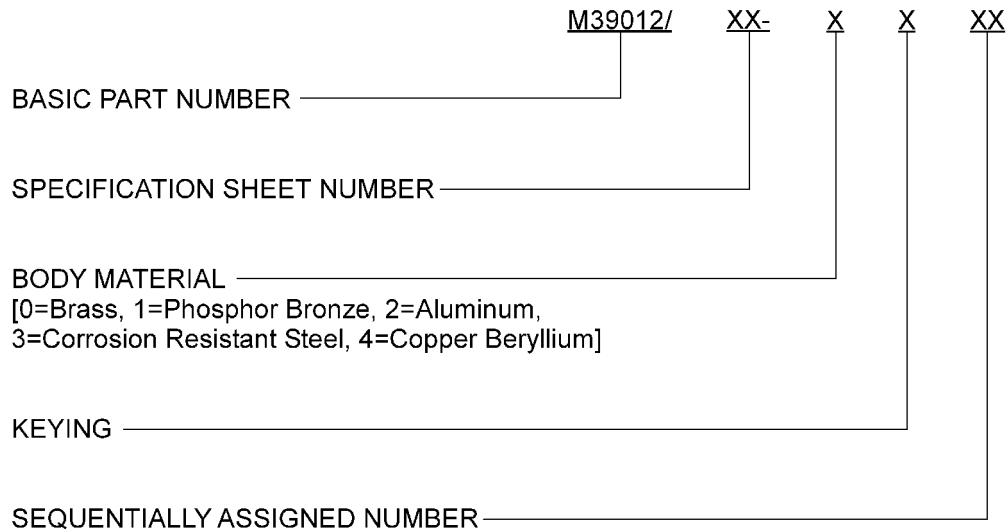

Figure 12. MIL-PRF-39012 Part Number Breakdown
45. **Part Number.** The part number consists of the basic specification sheet number, followed by the detailed specification sheet number, and a four digit dash number. The first digit of the dash number designates the material of the connector shell. The second digit denotes modified bayonet coupling mechanism keying (when applicable). The third and fourth digits of the dash number are sequentially assigned (Figure 12).